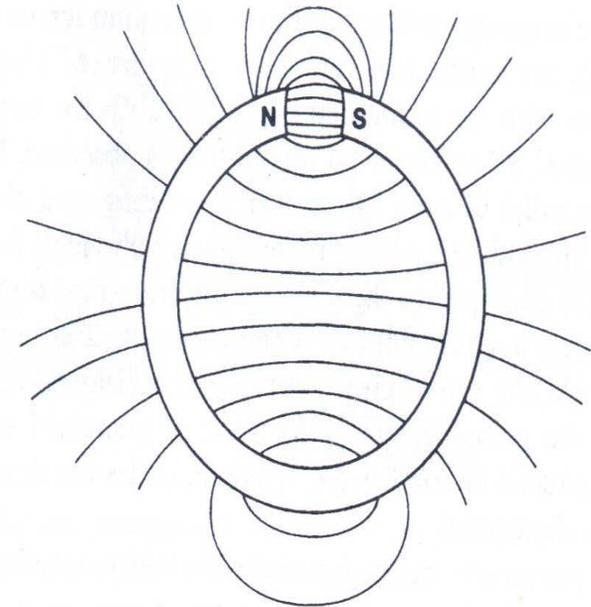

Figure 17.4. Fringing and leakage of a permanent magnet.
- ❑ **Fringing and leakage (fig. 17.4)**